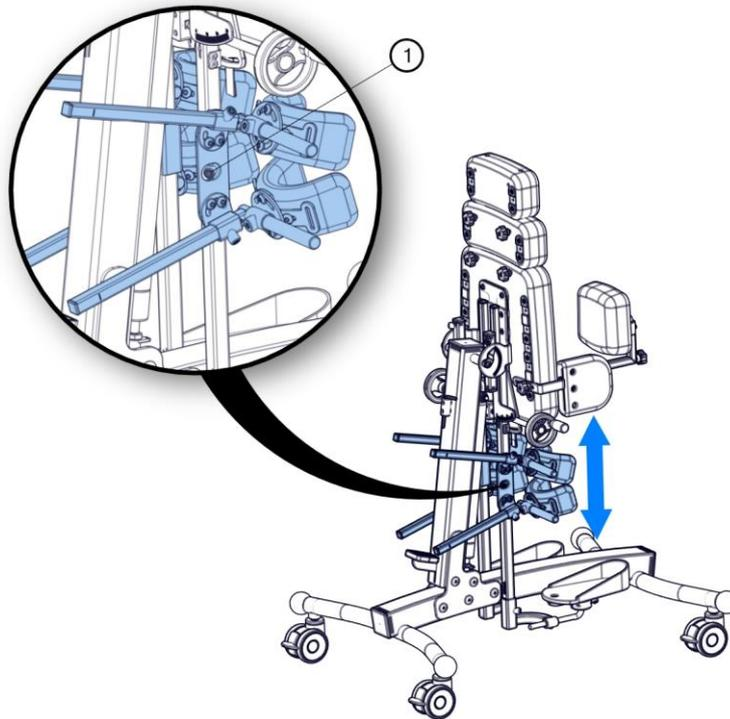

Fig. 25
Coco Stander can be also equipped with a two-point knee pad. This knee pad provides knee support in two points, above and below the patella. In order to adjust the height, please loosen the screw (1) (Fig. 25), set the knee pad at the appropriate height, and then tighten the screw (1). Repeat the same procedure in case of the second knee cap.